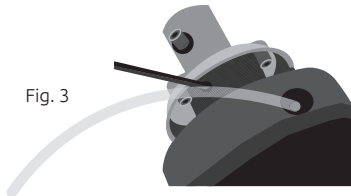

Fig. 3
- ▶ Make sure that the extension of the trimmer guard is mounted on the trimmer guard (Fig. 3).
- ▶ Fit the drive disc (B) on the output shaft.
- ▶ Insert a locking pin (C) in the hole to lock the shaft.